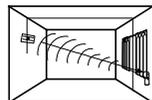

Fig. 3
For optimal performance the Wireless VITRON should be mounted as nearly opposite to the glass area to be protected, as shown in Fig 3.
- **Opposite Wall –Mounted** (For optimal results, Wireless VITRON is centered opposite glass, see Fig. 3).